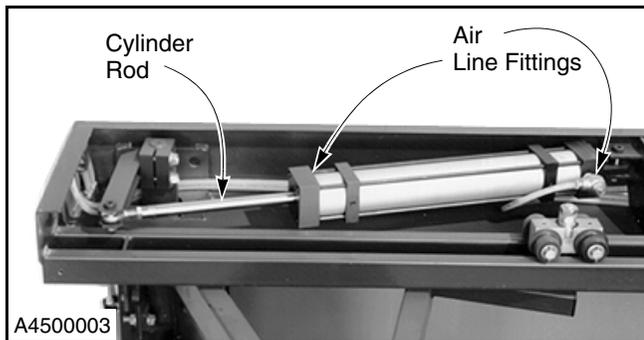

Figure 12
1. Check cylinder rod for nicks and rust. Clean rod and apply light oil as needed. Replace cylinder if necessary. (See Figure 12.)